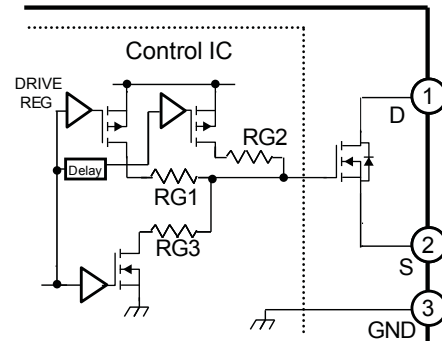

Figure 20. Step drive circuit
**Gate step-drive circuit** The STR-X6700 series incorporates a step-drive circuit (figure 20) for driving the MOSFET, which reduces noise when the MOSFET turns on. The drive current, when the MOSFET turns on, is at first limited only by RG1, and the gate voltage is increased gradually, and then rapidly in approximately 0.9 μs via (RG1 / RG2). Drive voltage then uses the constant-voltage drive circuit, maintained at VDRM = 7.5 V, which is not affected by VCC. The MOSFET gate charge is rapidly discharged through RG3 when the MOSFET turns off.